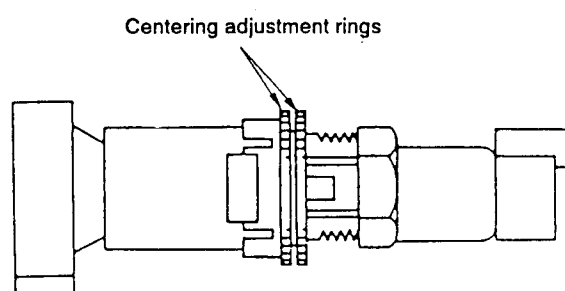

Fig. 8-52.
- 1) Turn the centering adjustment rings to provide an image with even right, left, upper and lower margins. (See Fig. 8-52.)